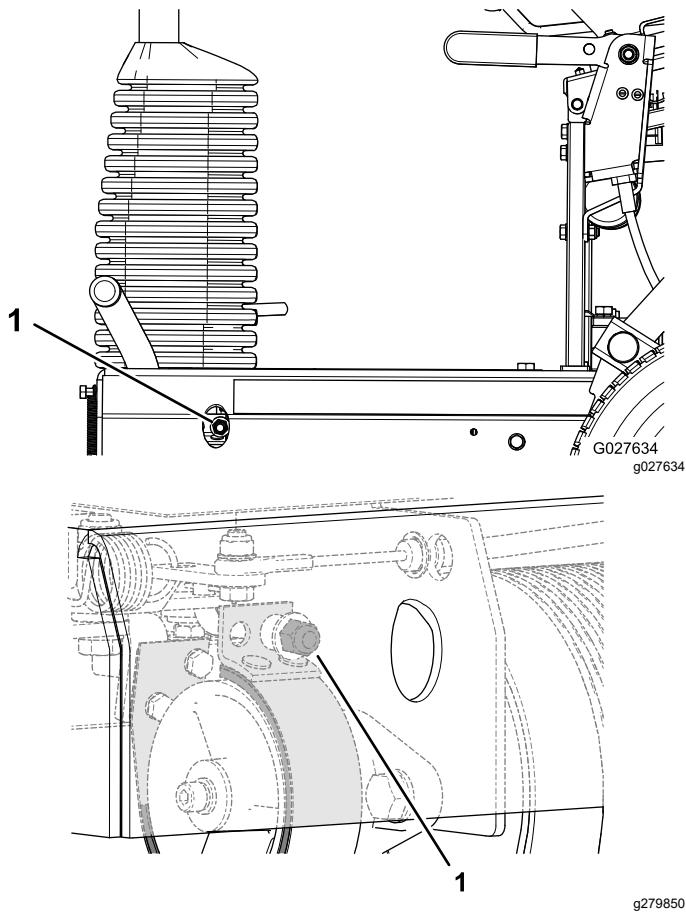

Figure 35
- To increase the brake force, rotate the brake locknut clockwise (Figure 35).
- To decrease the brake force, rotate the brake locknut counterclockwise (Figure 35).